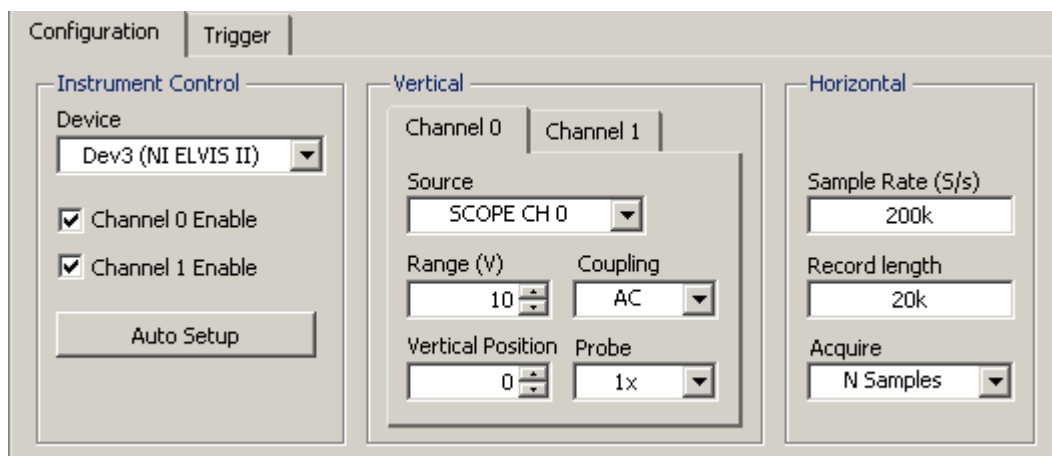

Figure 6-5
- On the Functions palette, click on **NI ELVISmx Oscilloscope** and drop it on the Block Diagram. The **Oscilloscope Configuration** dialog box appears. Configure it as shown in Figure 6-5 (same settings for both Channel 0 and Channel 1) and then close the Configuration dialog box.